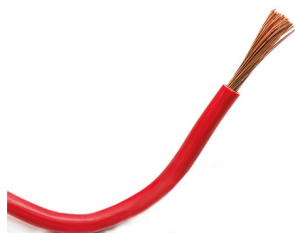

Fig. 2.1
2 (a) Fig. 2.1 shows the structure of a stranded electrical wire.
- (i) The stranded electrical wire in **Fig. 2.1** is made from 50 strands of copper. The diameter of each strand is 0.25 mm.
Using the value 2.50 mm^2 for the cross-sectional area, calculate the resistance in Ω of a 3m length of the electrical stranded wire shown in **Fig. 2.1**.